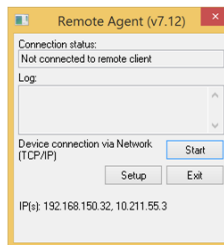

Figure 26. Remote Agent Popup Window
- 23) The Remote Agent popup window (Figure 26) will display with the IP address.